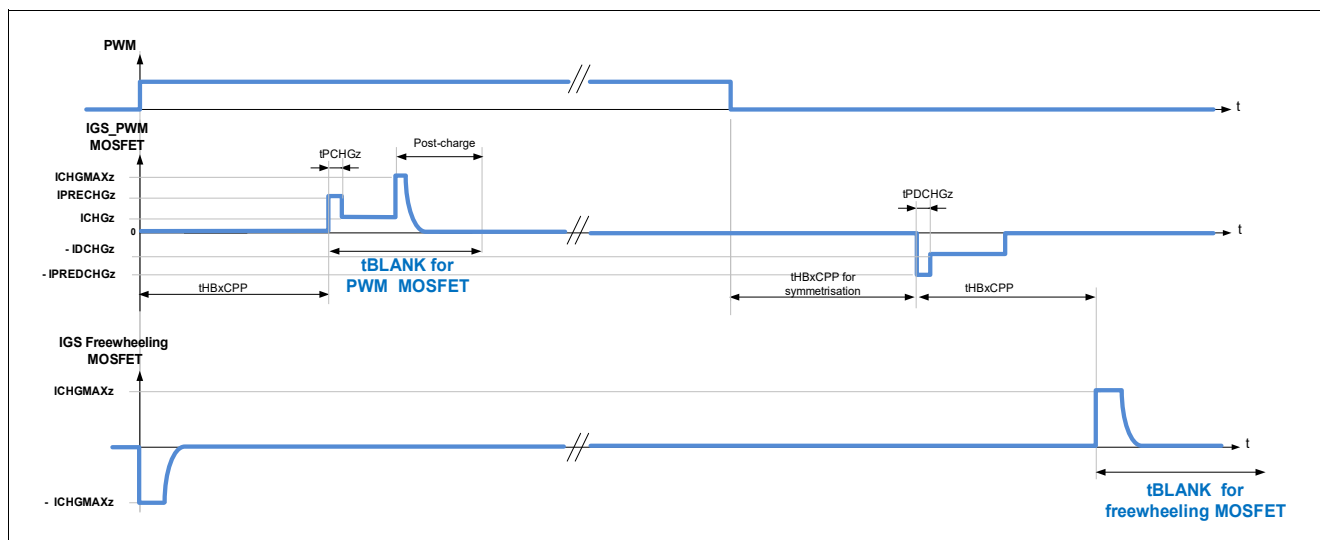

Figure 88 Blank time for half-bridges in PWM operation with $AFW = 1$
- the blank time of the PWM MOSFET starts at the expiration of the cross-current protection time of the PWM MOSFET. Refer to Figure 88.
- the blank time of the free-wheeling MOSFET starts after expiration of the cross-current protection time at turn-off of the PWM MOSFET. Refer to Figure 88.